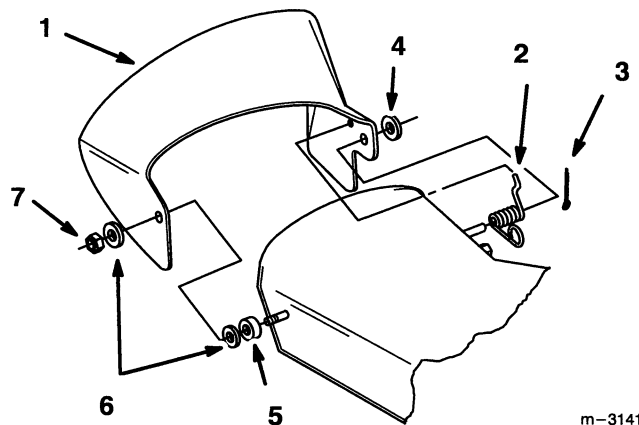

Figure 1
1. Locate items shown in Fig. 1.
3. Position spring and grass deflector over post on rear of deck and secure with 1/2" washer and 3/4" cotter pin (Fig. 1).
5. Place grass deflector over stud and secure with second plastic washer and 3/8" jam nut (Fig. 1).